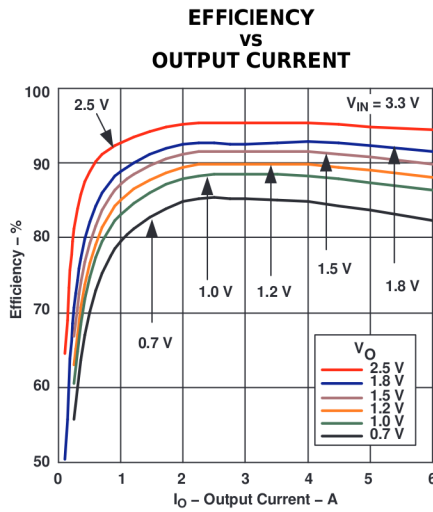
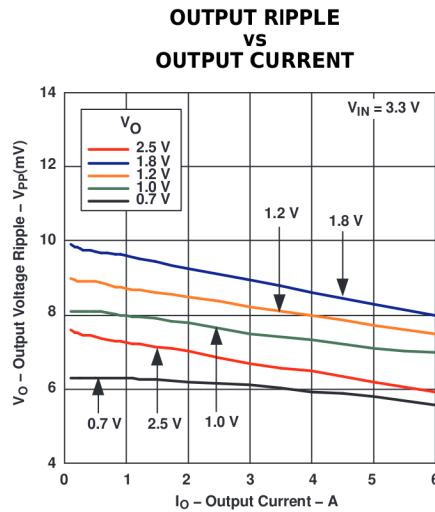
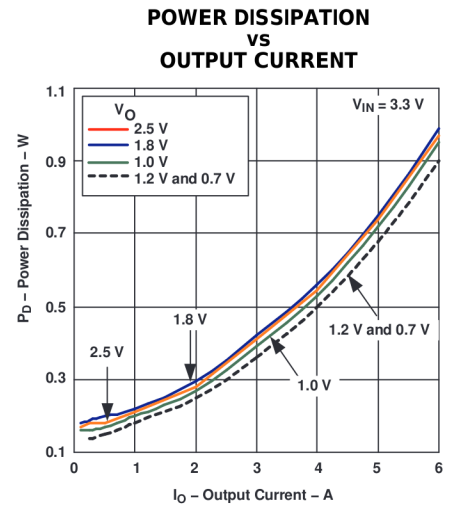

Figure 5.
Figure 6.
Figure 7.
- (1) The electrical characteristic data has been developed from actual products tested at 25C. This data is considered typical for the converter. Applies to Figure 5, Figure 6, and Figure 7.